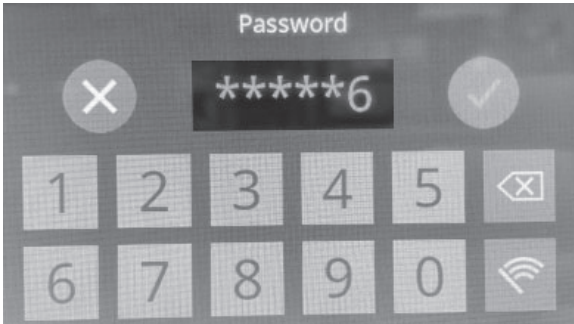
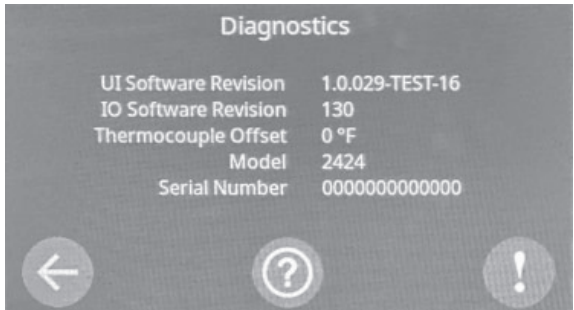

Figure 44
Figure 45
- 2. You will be prompted to enter a password (Figure 44) The password is 4-5-8-7-5-6. After entering the password, you will see the following screen (Figure 45).